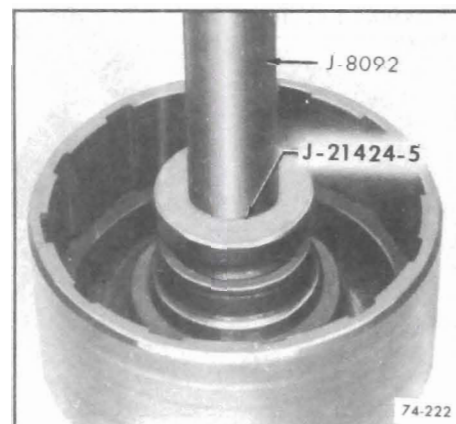

Figure 74-222
12. Check forward clutch drum bushing for nicks, severe scoring or wear. If bushing replacement is necessary proceed as follows: Using Tool J-21424-5, press damaged bushing out of forward clutch drum. See Figure 74-222.